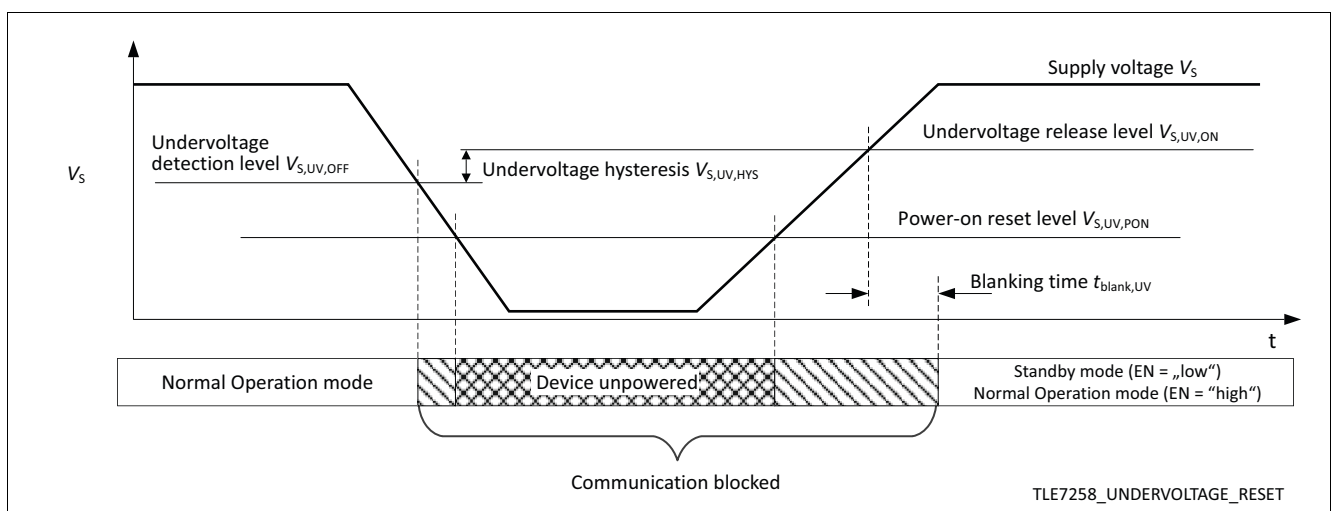

Figure 12 Undervoltage detection and power-on reset
- In case the power supply V_S drops down below the power-on reset level $V_{S,UV,PON}$ the TLE7258 not only blocks the communication between the LIN bus and the microcontroller, it also changes the operation mode to Standby mode after V_S supply recovery. In Standby mode the TLE7258 indicates a power-up event on the RxD output. The power-on reset level is active in all operation modes. See Figure 12.